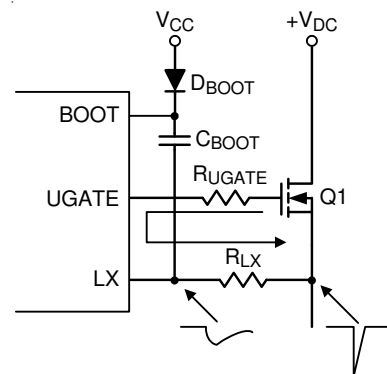

Figure 6. LX Pin Resistor
- ▶ In Figure 6, the LX pin voltage drop can be improved by adding  $R_{\text{LX}}$  ( $R_{\text{LX}} = 1$  to 10 $\Omega$ ), because the  $dv/dt$  is affected by ( $R_{\text{LX}} + R_{\text{UGATE}}$ ).